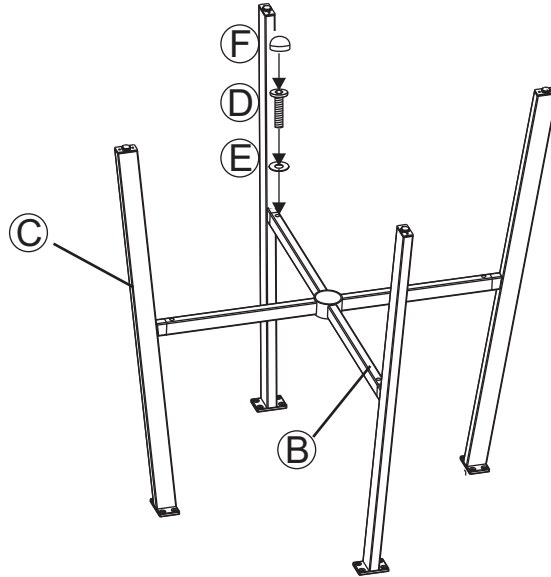

Figure 1
- 1 Attach a table leg to the leg connector bracket by using a bolt and washer as shown in the **Figure 1**. Guide the bolt through the hole in the leg connector bracket, into the pre-drilled holes in the table leg. **Hand tighten 2-3 turns only**. Repeat for the other three legs.